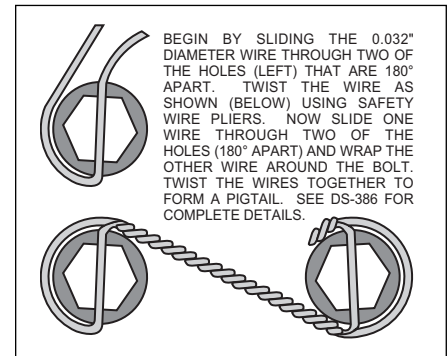

Figure 4. Safety Wire Diagram
•**NOTE:** Please reference the caution statement at the beginning of the assembly instructions. WITH THE BLEED SCREWS POINTING UP, mount the caliper (3) over the rotor (2) and onto the caliper mounting bracket (1) using lock washers (4) and mounting bolts (5). View the rotor through the top opening of the caliper. The rotor should be aligned in the center of the caliper. If not, adjust the caliper by using 0.032 inch shims (6) by placing them between the caliper mounting bracket (1) and the caliper (3). Apply red *Loctite*® 271 to the mounting bolt threads (5), torque to 30 ft-lb. Safety wire the caliper mounting bolts (5) using standard 0.032 inch diameter stainless steel safety wire as shown in Figure 4. Please refer to Wilwood's data sheet DS-386 (available at www.wilwood.org/ds386.pdf) for complete safety wire installation instructions.